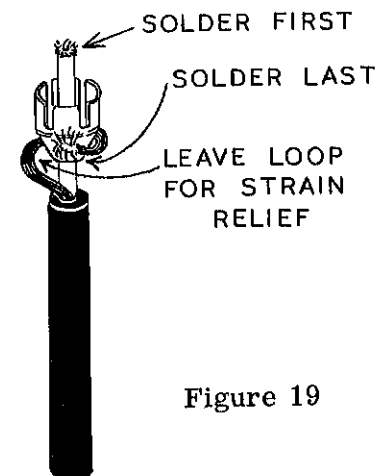

Figure 19
- ( ) Install the phono connectors on each end of the cable as shown in Figure 19. Insert the prepared inner conductor through the back of the connector until it will go no further. A small amount of wire should show at the tip of the connector. Solder the wire to the connector at this point. Next, wrap the shield braid around the plug shell and solder securely. Repeat the operation for the opposite end of the cable, unless the audio equipment to be used with the tuner uses some other type of connector.